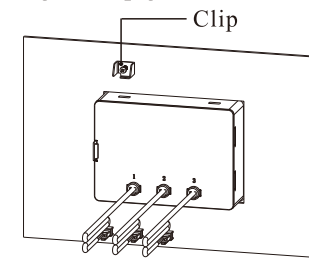

Figure 3
③As Figure 3 shows, making the clip get into the controller's slot, and tighten the screw.